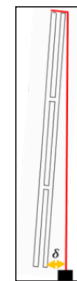

Figure 14: Plumb Verification (Side View)
- Inspect if the structure is plumb by placing a sufficiently long level on the top section of the frame. Refer to Figure 14. If possible, adjust the structure or plan ahead for section adjustments while installing the display sections if the value of δ at the bottom of the structure exceeds 1 mm for each 1 m of the frame's height. For example, a 10 m high structure would have a δ of 10 mm.